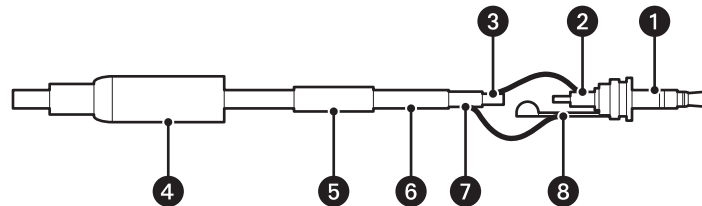

Figure 6. Attaching the 2.5 mm Monaural Headphone Plug
2. Attach the 2.5 mm stereo plug to the other end of the coaxial cable (refer to Figure 6):